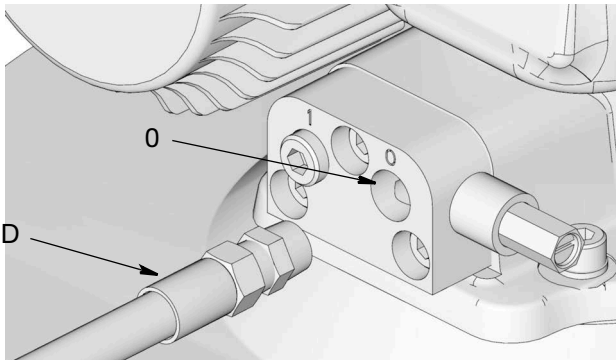

FIG. 73: Lubricant Outlet Connection
6. Connect the timer/controller (F) (user supplied, if used).
7. Connect the high pressure lubricant supply line (D) to the lubricant output connection (O) (FIG. 73) on the vent valve or manifold.